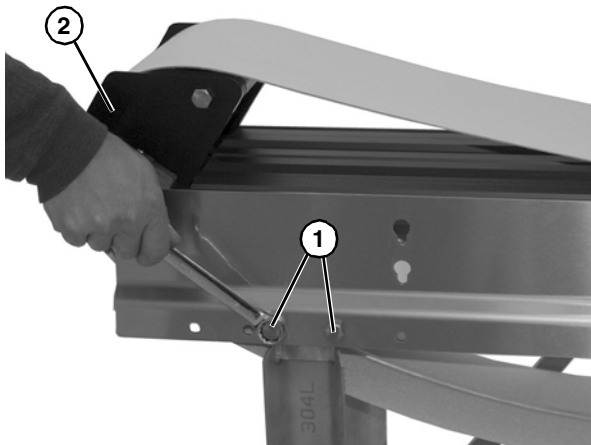

Figure 10
1. Remove two cap screws (**Figure 10, item 1**) holding stand to conveyor.
2. Rotate idler end (**Figure 10, item 2**) upward.